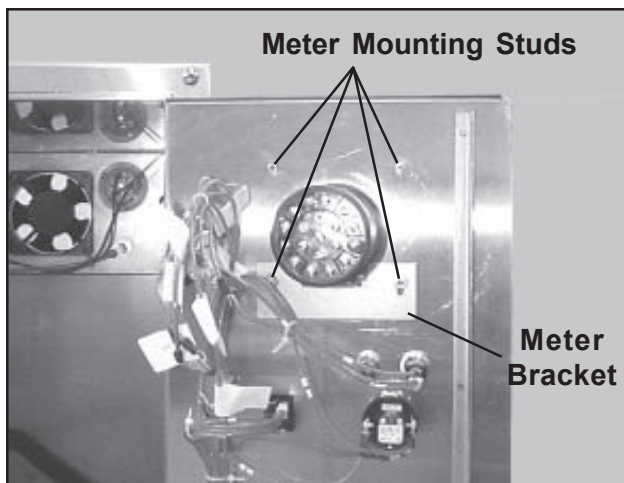

Figure 105. Meter Mounting Studs
7. With a 1/4-in. wrench, remove the nuts from the two lower meter mounting studs (Figure 105).